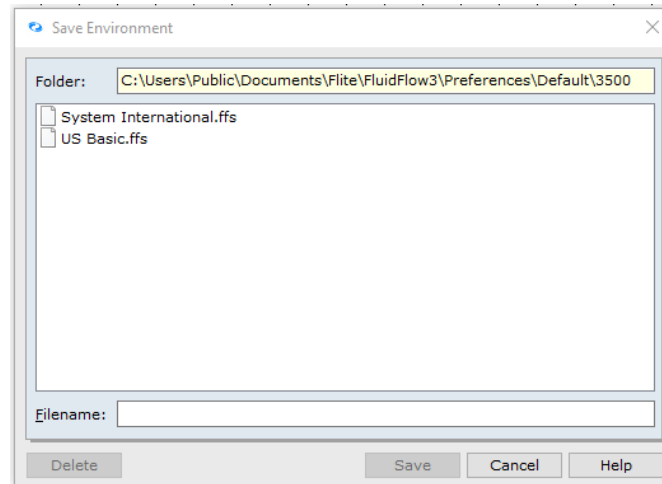

Figure 23: Save Environment Dialogue Box.
25. The Save Environment dialogue box will appear (Figure 23).